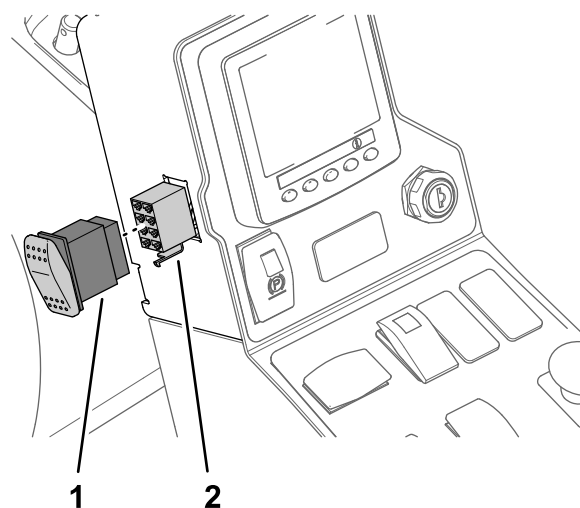

**Figure 16**
- From inside the control arm, press the dash plug out of the hole in the side of the arm (Figure 16).